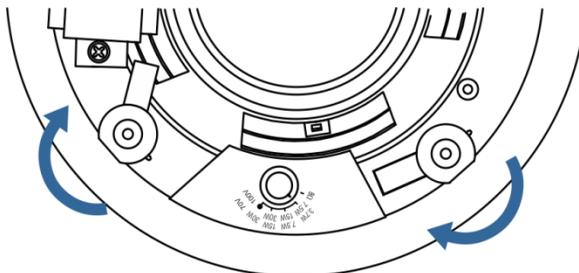

Figure 3: Position Mounting Tab
2. Position the mounting tabs (see Figure 3) inward.